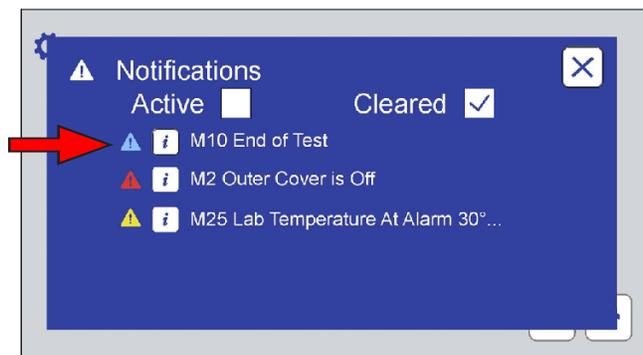

Figure 11.5b: The Notifications Screen lists notification information.
- The type, information icon, identification code (ex. M10), and name are displayed for each notification (Figure 11.5b).